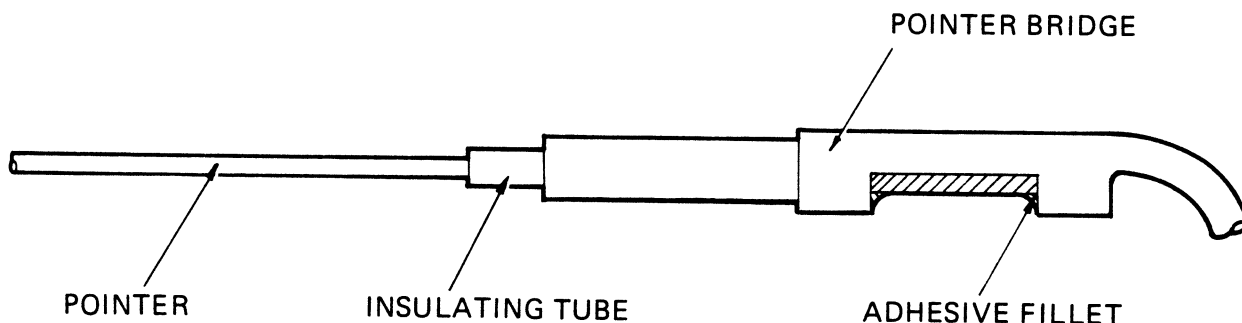

Fig. 5 Replacement of pointer
The height of the pointer shall be  $0.5 \text{ mm} \pm 0.1 \text{ mm}$  from the lower edge of the scale, (see figure 5). and not less than 1 mm between positioning of the slotted nuts fitting the meter movement compartment to the carrier plate. Move the pointer across the lateral range of movement to ensure that the distance between pointer and scale, and pointer and recording roller remains constant. (see figure 4).
- 25.3 Remove all traces of adhesive from the outside of the pointer bridge (fig. 5).